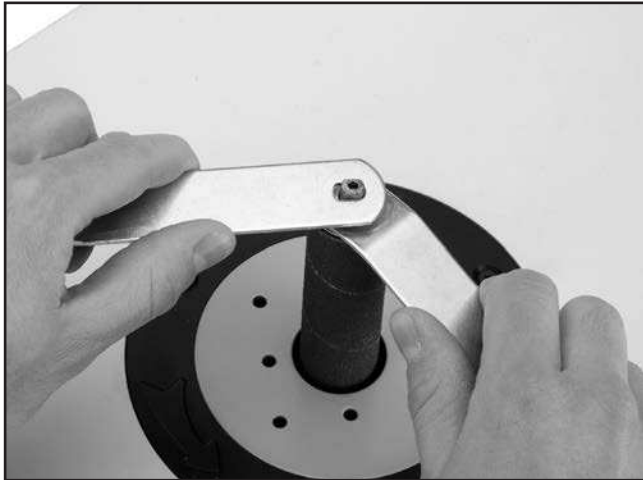

Figure 8. Loosening the spindle hex nut.
2. Hold the flats of the spindle using the small slot in the second $\frac{9}{16}$ " wrench, as shown in **Figure 8**, and loosen the hex nut with counterclockwise turns so that it can be removed by hand.